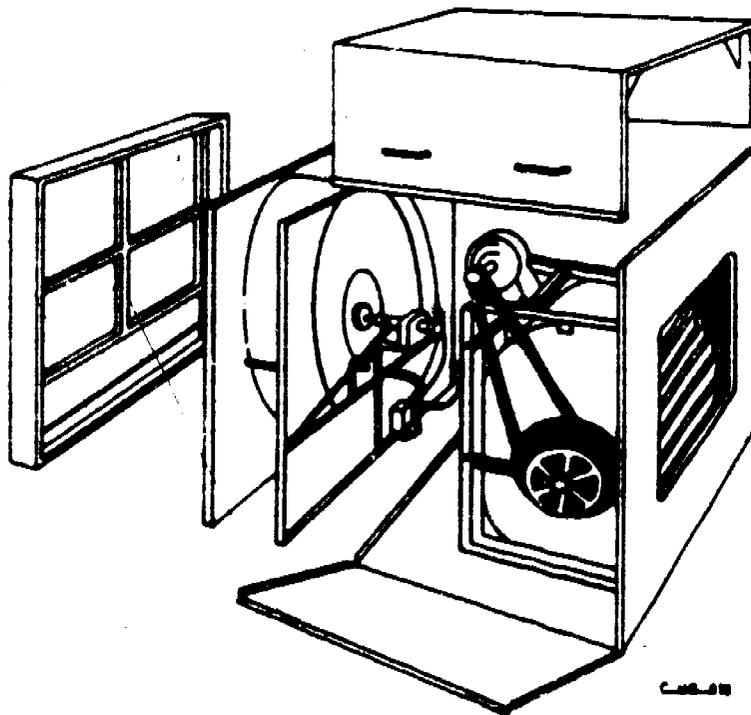

Figure 10. Rotary-Drum Unit (Partly Disassembled)
**ROTARY-DRUM EVAPORATIVE UNITS.** As the name implies the rotary-drum evaporative cooling unit uses a rotating drum, powered by a reduction gear and motor. Figure 10 illustrates a partly disassembled rotary-drum unit. Other principal components are the exterior air-filter unit, the rotor housing, the water tank and the float-actuated water makeup valve, an automatic flush valve, and a motor-driven fan or blower. All of these components are mounted in a metal weatherproof cabinet. The rotary-drum-type evaporative coolers are usually made in sizes ranging from 2500 through 6000 cfm. Blowers and motors are designed the same as for the drip-type evaporative cooler units.